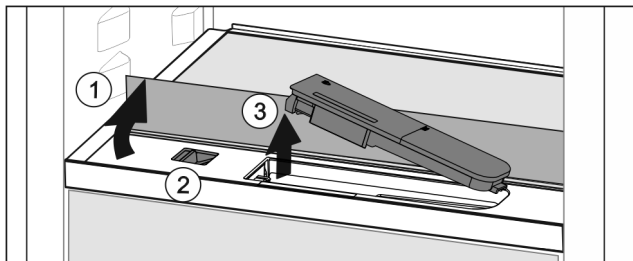

Fig. 173
- ▶ Lift the glass panel and fold towards the rear until it clicks into place Fig. 173 (1).
- ▶ Slide the slider Fig. 173 (2) to the left.
- ▶ Remove the water tank Fig. 173 (3).